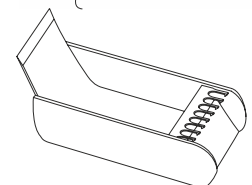

Fig. 7
10. *Stain the gel in the Easy Staining tray on the shaker \*(Fig. 7)*
10. Stain with SYBR Green II or SYBR Gold (1:10000) diluted in 30 mM TAE buffer for 20-30 min. It is recommended to protect the gel from the light during staining. Cover the Easy Staining tray (Fig 7) with the cardboard box or aluminum foil. Destain in distilled water for approximately 30 min is recommended when the gel is overstained.